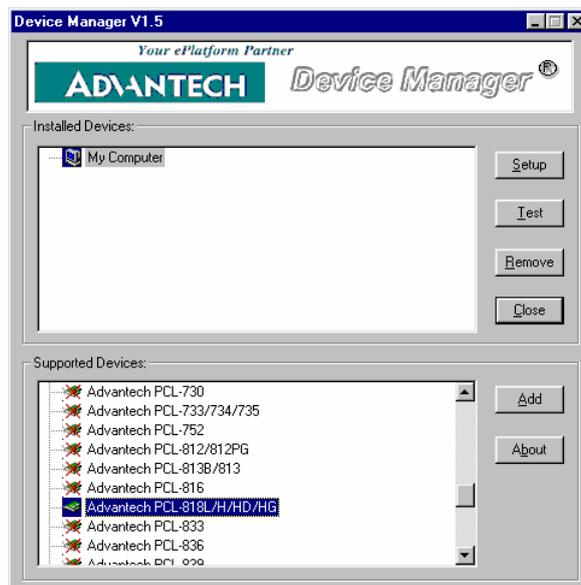

Fig. 2-3 *The Device Manager dialog box*
Step 2: You can then view the device(s) already installed on your system (if any) on the *Installed Devices* list box. Since you have not installed any device yet, you might see a blank list such as the one below (Fig. 2-3).